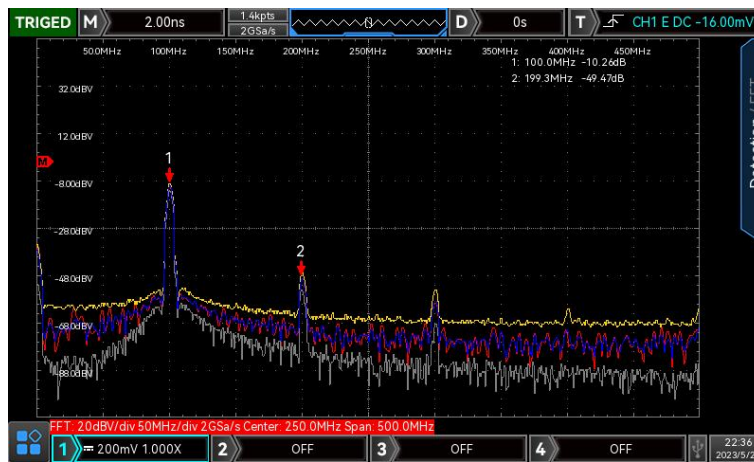

Figure 15-2
- c. Independent screen : Only display FFT wave for observing frequency spectrogram more clearly, as shown in Figure 15-2.